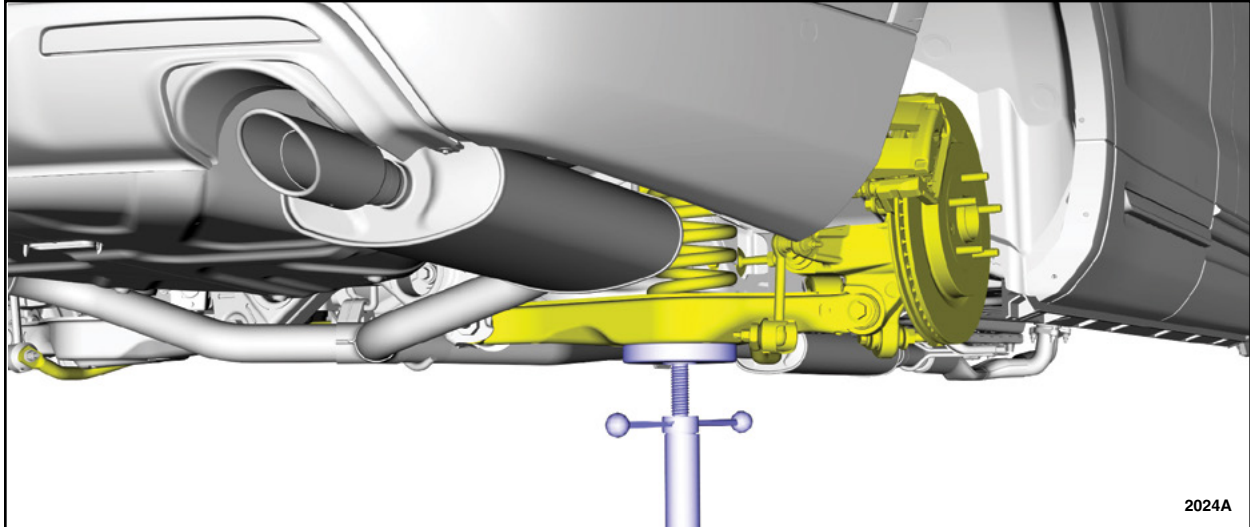

FIGURE 2
4. Using a jack stand, support the rear suspension to ride height. See Figure 2.